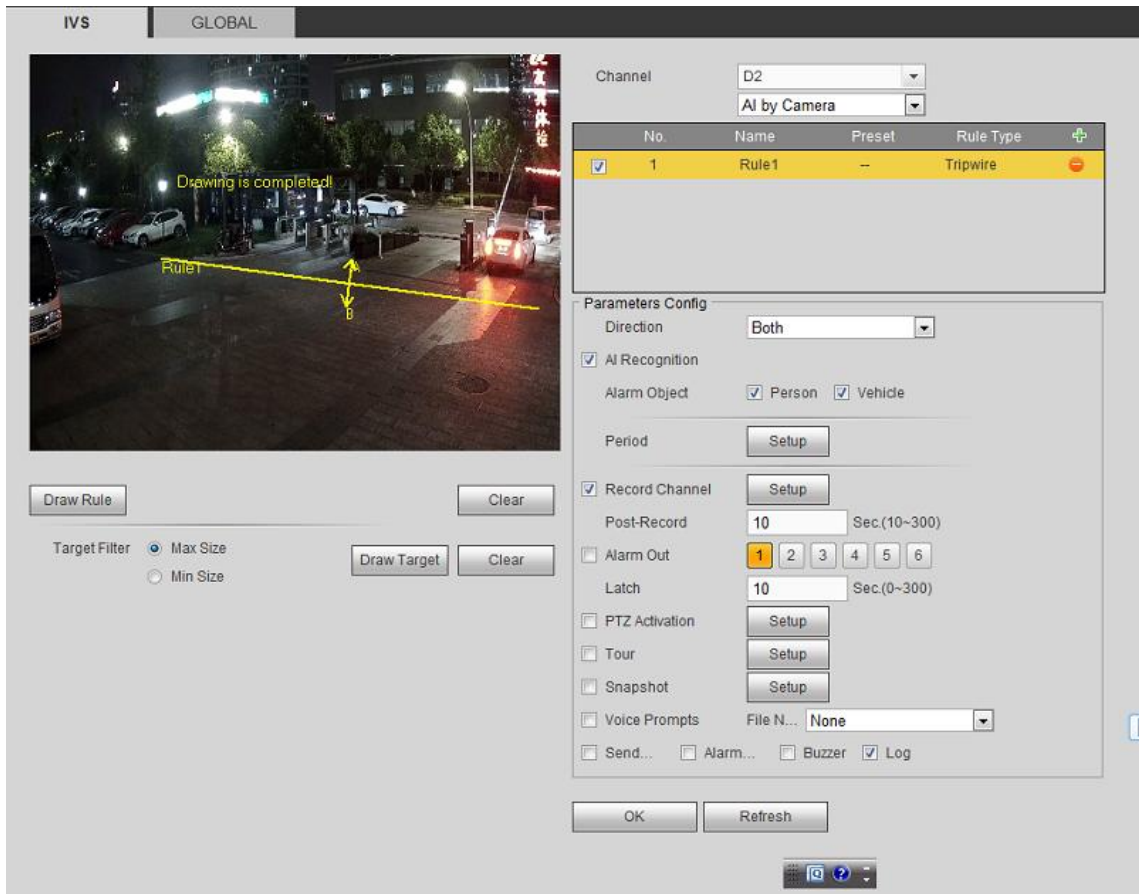

Figure 5-68
- When you select AI by camera, the system displays as Figure 5-68.